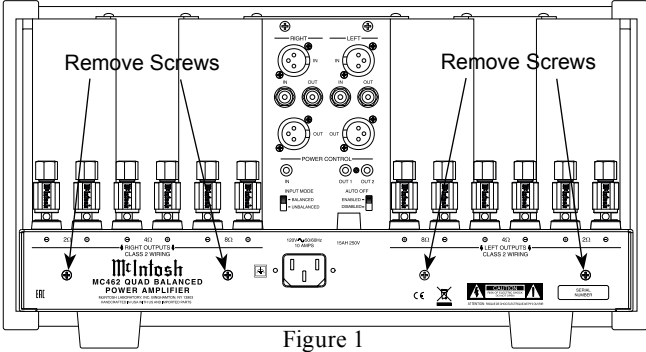

Figure 1
- 5. Using a suitable tool remove the four screws from the MC462 Rear Panel and temporarily place them in a safe place. Refer to figure 1.